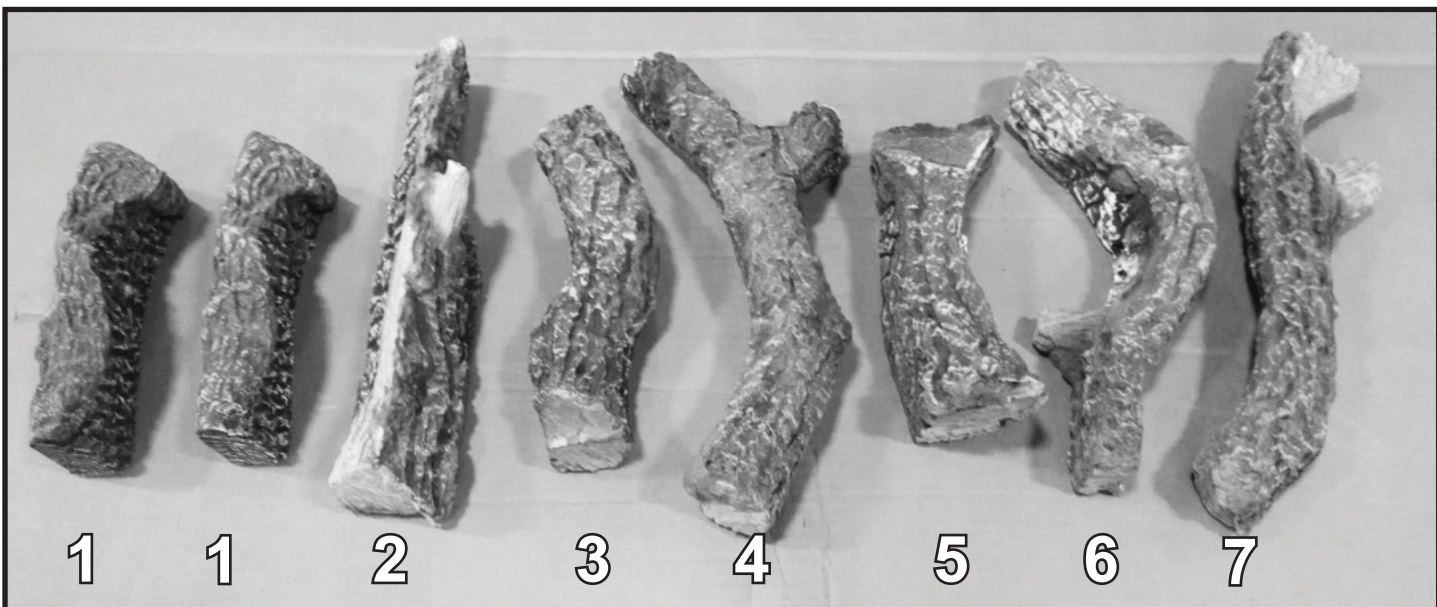

Figure 4. Logs identified
11. Unpackage logs and identify each log using Figure 4.